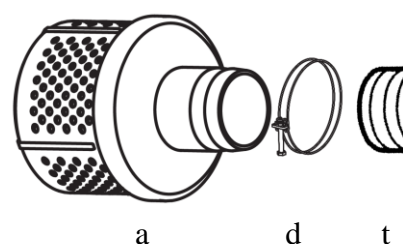

Fig. 6
- Fig. 6 illustrates the order to place the parts to successfully attach the suction hose to strainer.